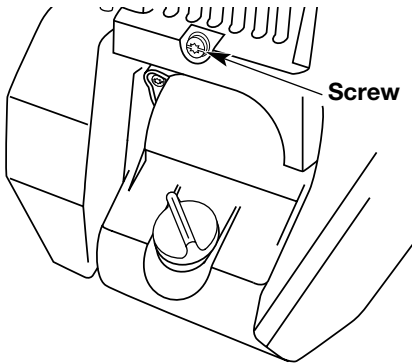

Fig. 51
3. Remove the screw on back of the engine cover (Fig. 51).